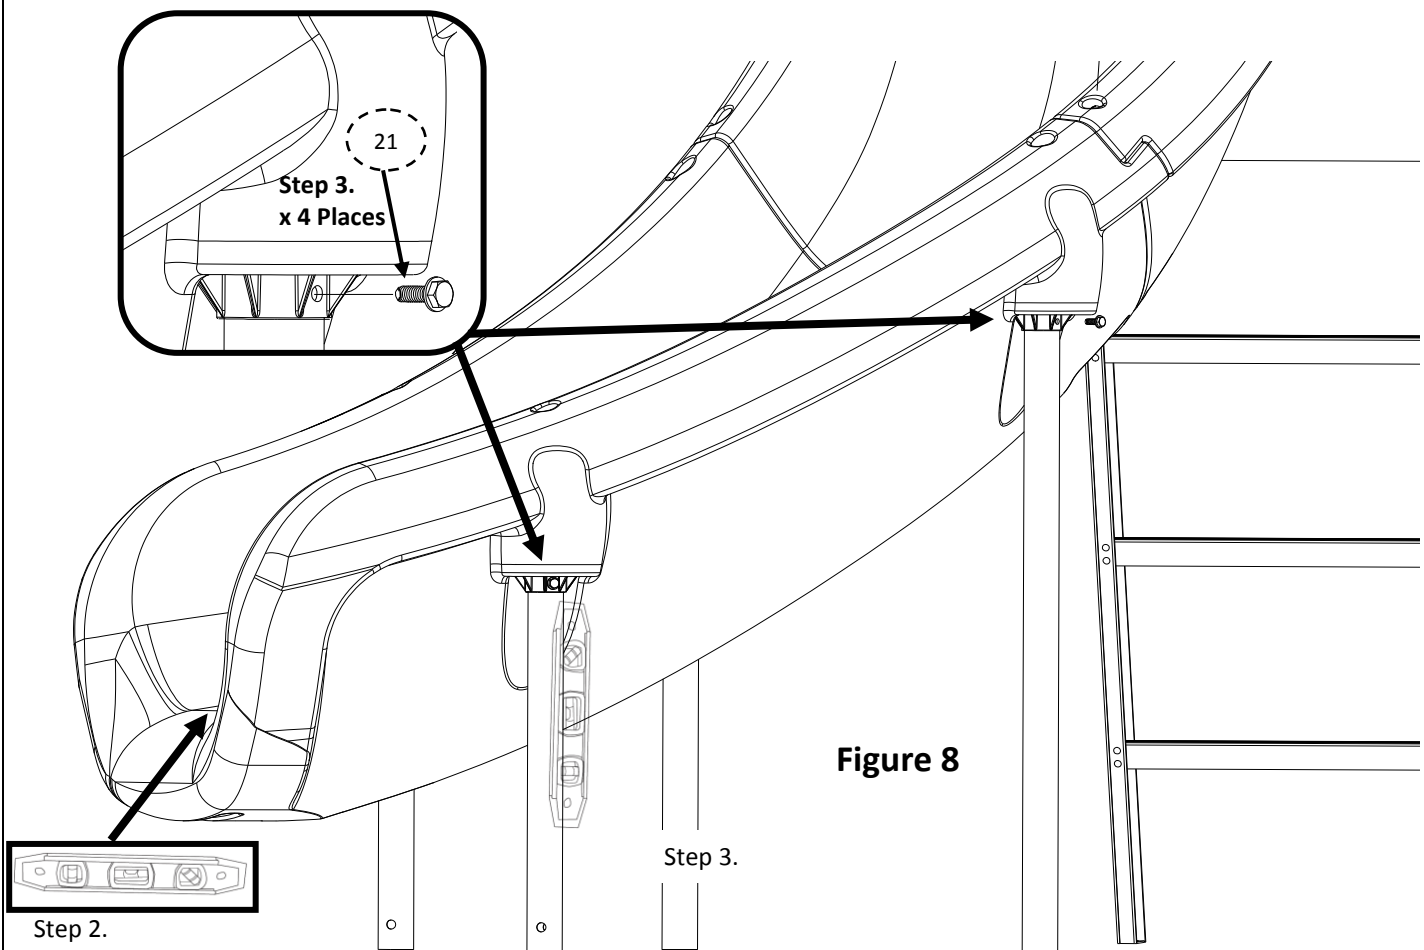

Figure 8
- 10) The legs can be adjusted up and down within the leg sockets to help adjust for level. Once the slide is properly leveled the legs shall be permanently attached by drilling a 1/4" (6 mm) hole into each leg using the hole on the leg socket as a guide and fastening with a (#21) 5/16" Hex Head Washer Tek Head Screw. See Figure 8.